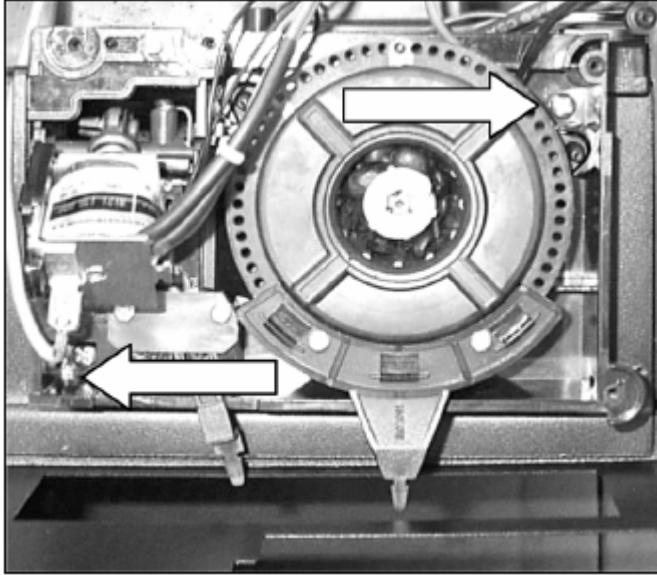
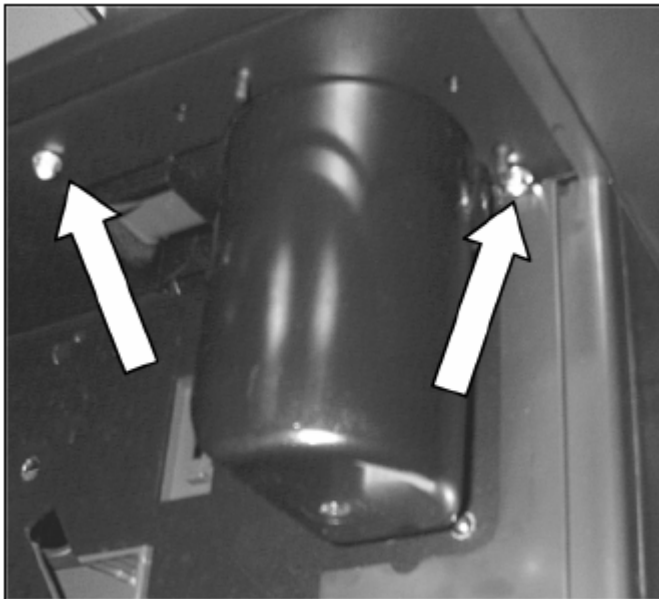

Figure 5-37: Grinder Retaining Screws
Figure 5-38: Grinder Retaining Nuts
19. Remove the two screws (Figure 5-37) and nuts (Figure 5-38) that secure the grinder plate assembly to the top of the front plate assembly.